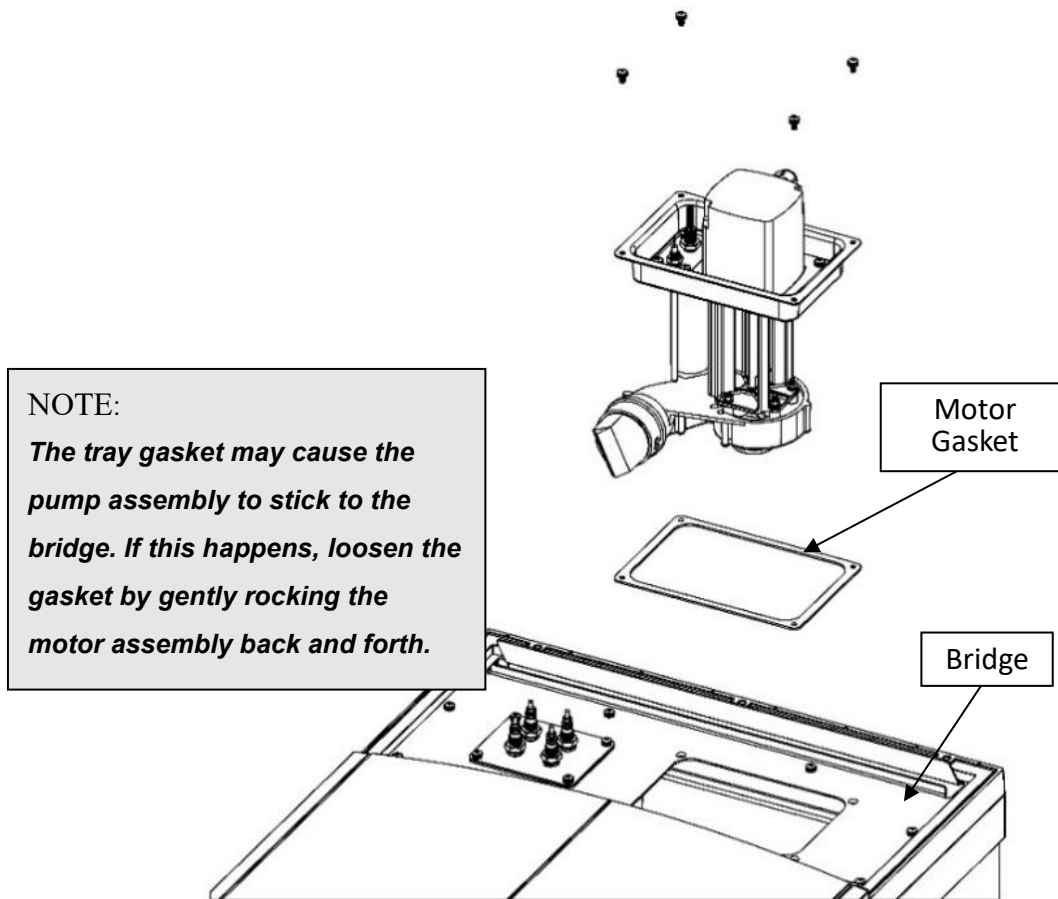

Figure 4 – Pull the Pump
- g. Remove the four M5 screws holding the Pump Assembly and ground wire (**See Figure 4**).